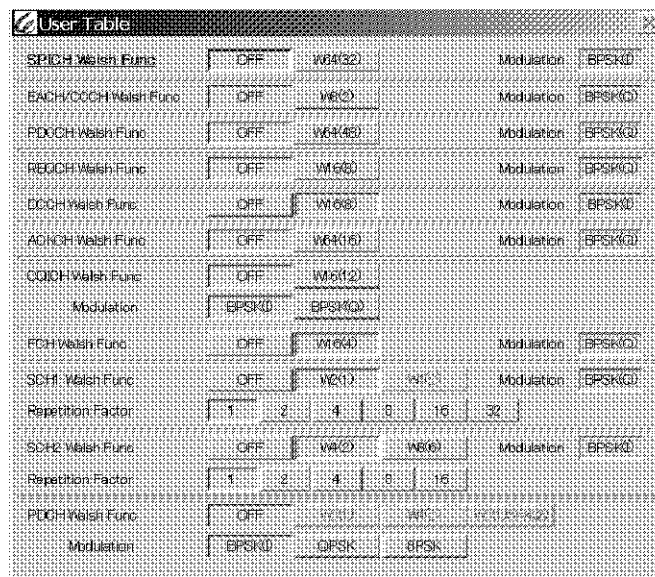

Figure A-6 Setting Example of the **[User Table]** Dialog Box
1. Set the **[User Table]** dialog box as Figure A-6. (The PICH settings are not required because PICH is always set in this instrument.)